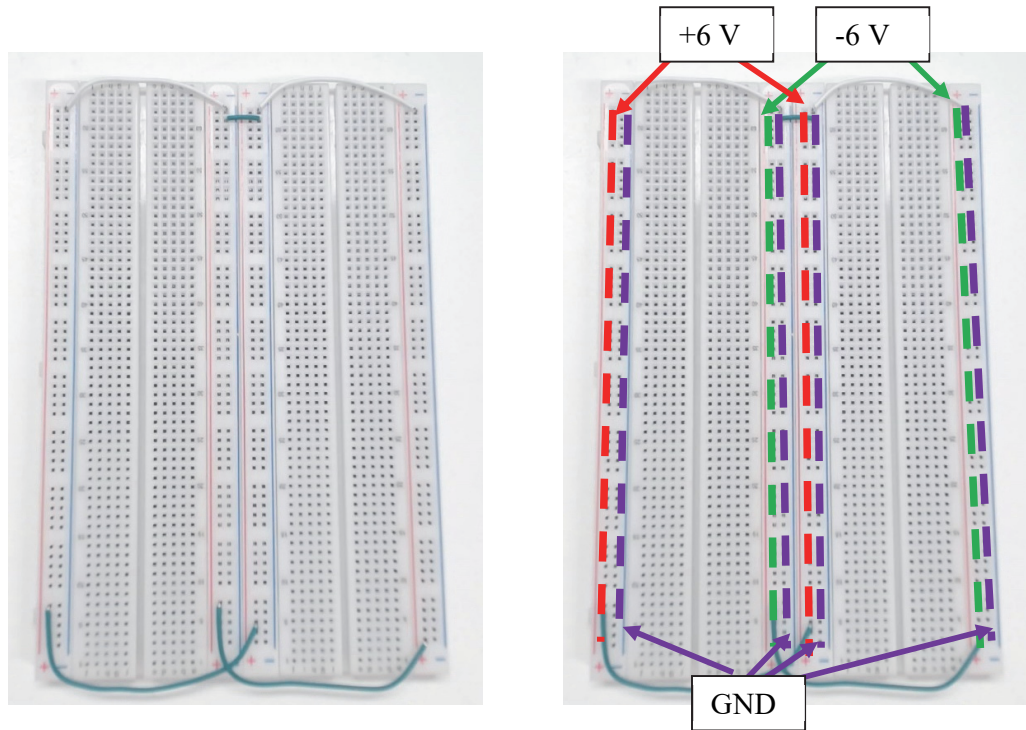

Fig. 7
- 5.2.3. On the breadboard, connect the columns in a way that two columns for +6V, two columns for -6V, and four columns for GND, as shown in Fig. 7.